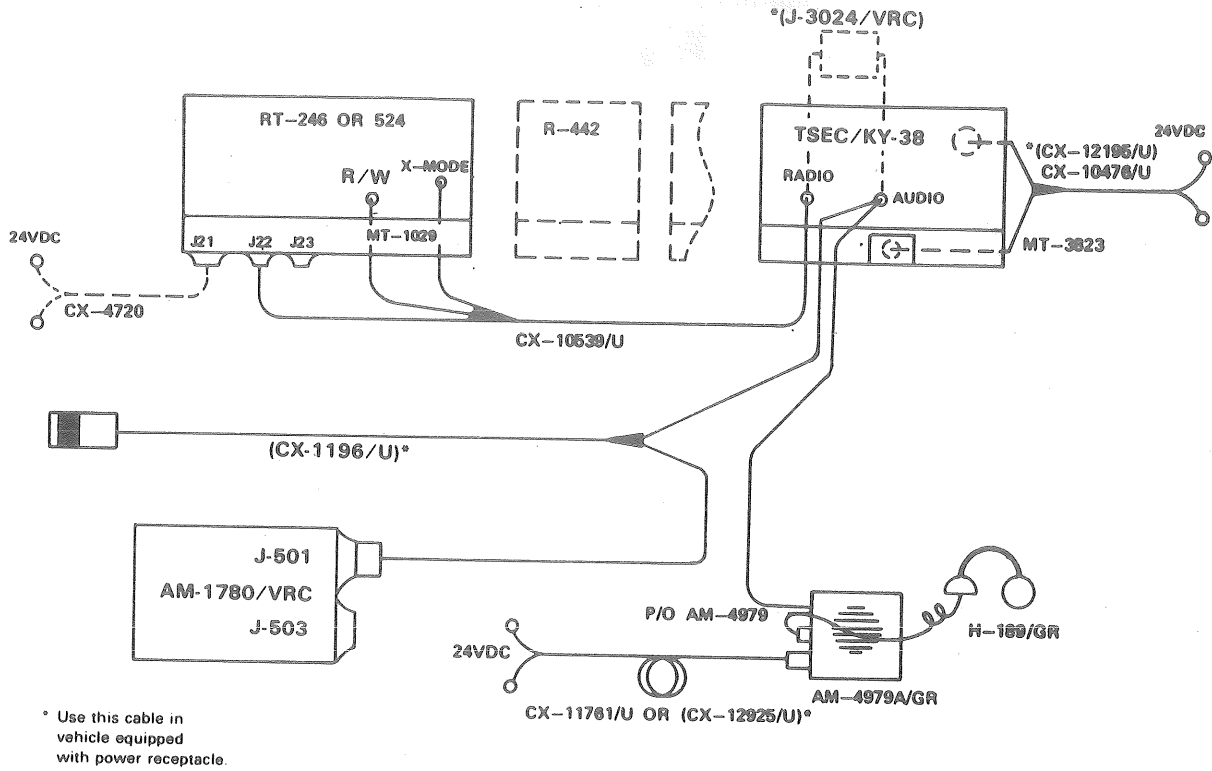

Figure 1. TSEC/KY-38 with AN/VRC-12 series radio (typical).
1. Mount and interconnect the security equipment. (Refer to fig 1.)
- e. Connect the end of the octopus cable (CX-10539/U) to the radio connector (fig 1 and 2) on TSEC/KY-38.
- h. Mount the Amplifier, Audio Frequency AM-4979A/GR in the speaker mounting bracket (fig 1 and 3).
- j. Connect the AM-4979A/GR cable to the AUDIO connector (fig 1 and 2) of the TSEC/KY-38.
- k. Connect the radio handset to the AUDIO connector of the AM-4979A/GR (fig 1 and 3).
4. Place the system into operation. (Refer to the appropriate FM radio set task and fig 1 thru 3.)